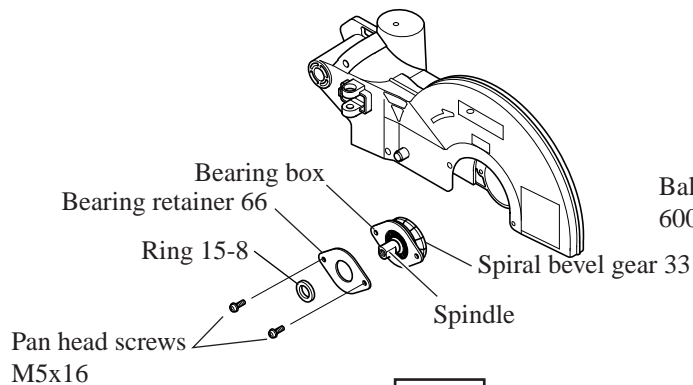

Fig. 6
- 2) Disassemble gear unit from blade case by unscrewing 2 pcs. of pan head screws M5x16. See Fig. 6.